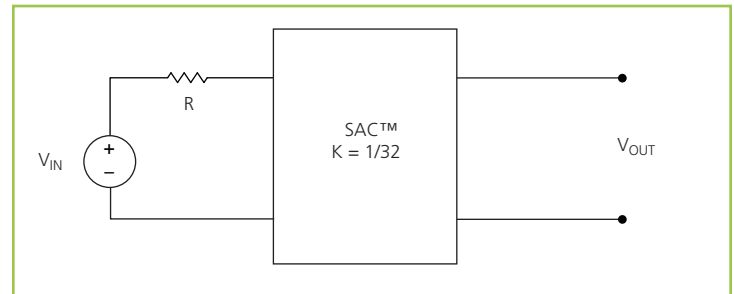

Figure 15 — K = 1/32 Sine Amplitude Converter™ with series input resistor
The use of DC voltage transformation provides additional interesting attributes. Assuming that R_OUT = 0 Ω and I_Q = 0 A, Eq. (3) now becomes Eq. (1) and is essentially load independent, resistor R is now placed in series with V_IN as shown in Figure 15.
Assuming that $R = 1 \Omega$, the effective R as seen from the secondary side is 0.98 mΩ, with $K = 1/32$ as shown in Figure 15.